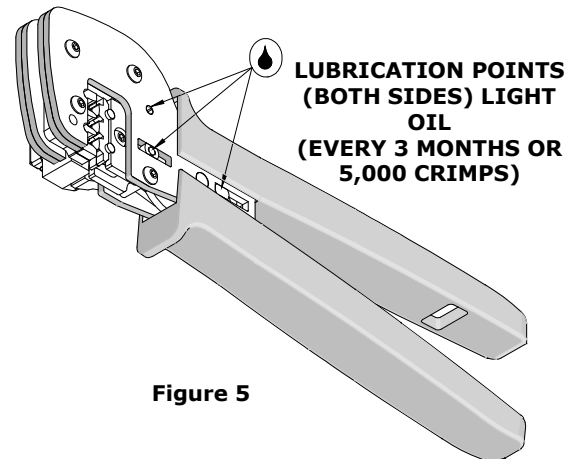

Figure 5
3. Make certain all pins, pivot points and bearing surfaces in the tool head are protected with a thin coat of high-quality machine oil. Do not oil excessively. This tool was engineered for durability, but like any fine piece of equipment, it needs cleaning and lubrication for a maximum service life of trouble-free crimping. The use of a light oil such as 30 weight automotive oil every 5,000 crimps or monthly will significantly enhance the tool life and ensure a stable calibration. See Figure 5 for lubrication points.